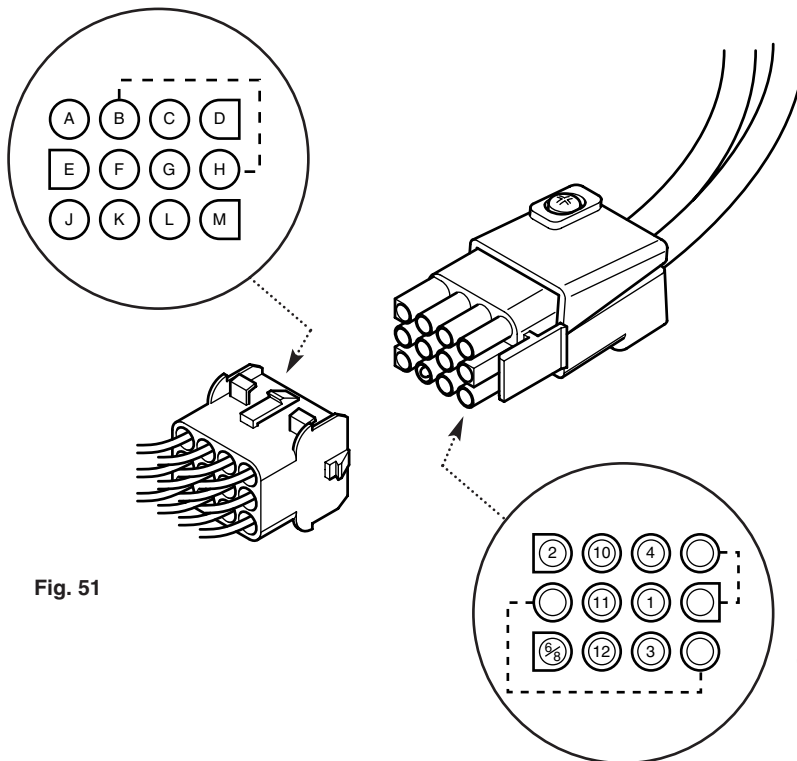

Fig. 51
1. This page shows the configuration of the plug and socket on the Burner Ignition Control supply (Fig. 51). The socket is part of the boiler harness and the plug is on the lead connected to the Burner Ignition Control.